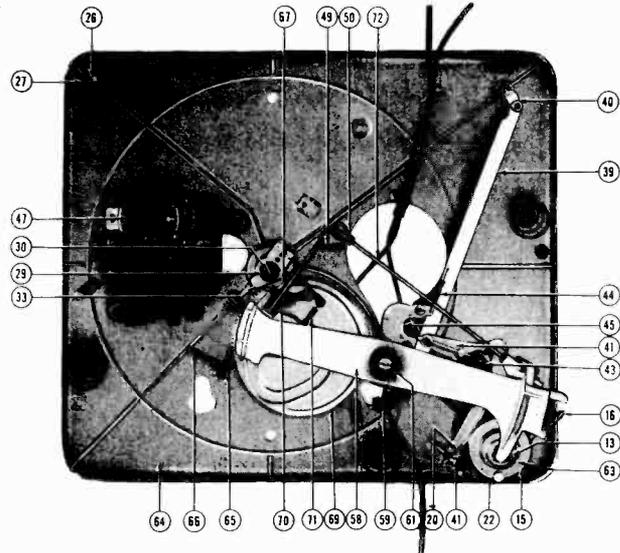

Fig. 4
3. Hinge Bearing (10) out of relation with Pick-up Arm Locator (12). This may be adjusted as follows:
- a. Place the Pick-up Arm (1) on the rest post and turn Control Knob (37) to "OFF" position.
- b. Control Lever (41) should be engaging leg on Set Down Locator (20) as shown in Figs. 4 and 7. If improperly set, position Set Down Locator (20) correctly.